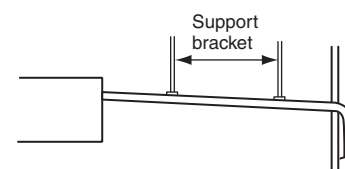

Fig. 3-36
- Do not apply force to the piping on the unit side when connecting the drain pipe. The pipe should not be allowed to hang unsupported from its connection to the unit. Fasten the pipe to a wall, frame, or other support as close to the unit as possible. (Fig. 3-36)